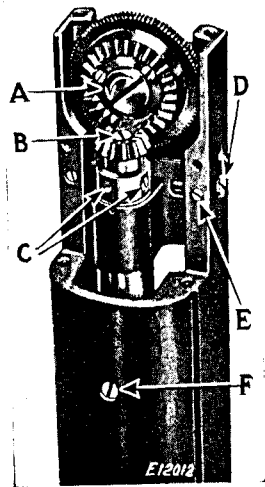

Fig. 25
The height of the feed wheel is regulated by the eccentric stud (D, Fig. 25). To raise or lower the feed wheel, loosen the set
screw (F, Fig. 25) and turn the eccentric stud (D) to the right or left a fraction of a turn until the feed wheel is at the desired height, then securely tighten the set screw (F).
Remove feed wheel cover and throat plate. Loosen the two set screws (C, Fig. 25) in the pinion gear, then remove the screw studs (A and B), both of which have left-hand threads and must be turned to the right to remove. The pinion and feed wheel may then be removed.